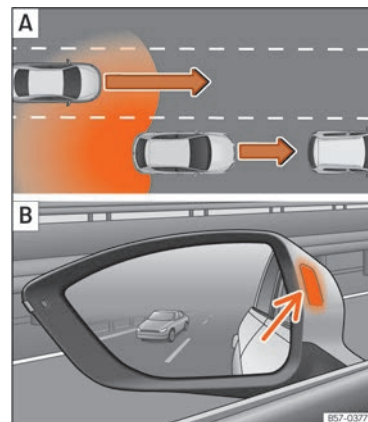
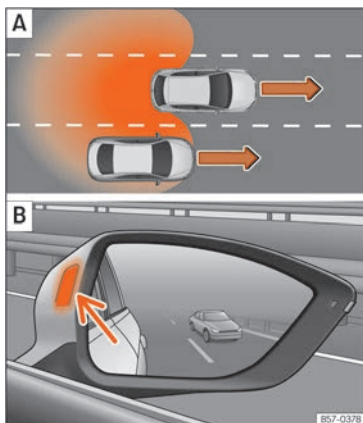

Fig. 128 Schematic diagram: **A** Overtaking with traffic behind the vehicle. **B** Side Assist indication on the left hand side.
Fig. 129 Schematic diagram: **A** Overtaking in the central lane and then joining the right lane. **B** Side Assist indication on the right hand side.
In the following situations, an indication will be displayed in the control lamp >>> Fig. 128 **B** [arrow] or >>> Fig. 129 **B** [arrow]:
- When being overtaken by another vehicle >>> Fig. 128 **A**.
- When passing another vehicle >>> Fig. 129 **A** with a speed differential of approx. 10 km/h (6 mph). If the vehicle is passing at a considerably higher speed, no indication will be displayed.